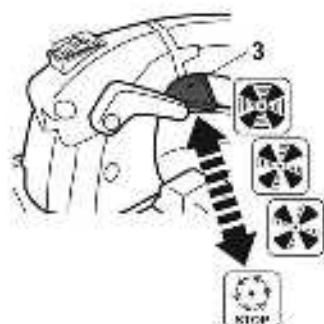

Fig. 14
- > Squeeze the throttle trigger (3). The speed is controlled by how far the throttle trigger is depressed.
- > Release the throttle trigger (3) to idle the engine (Fig. 14).